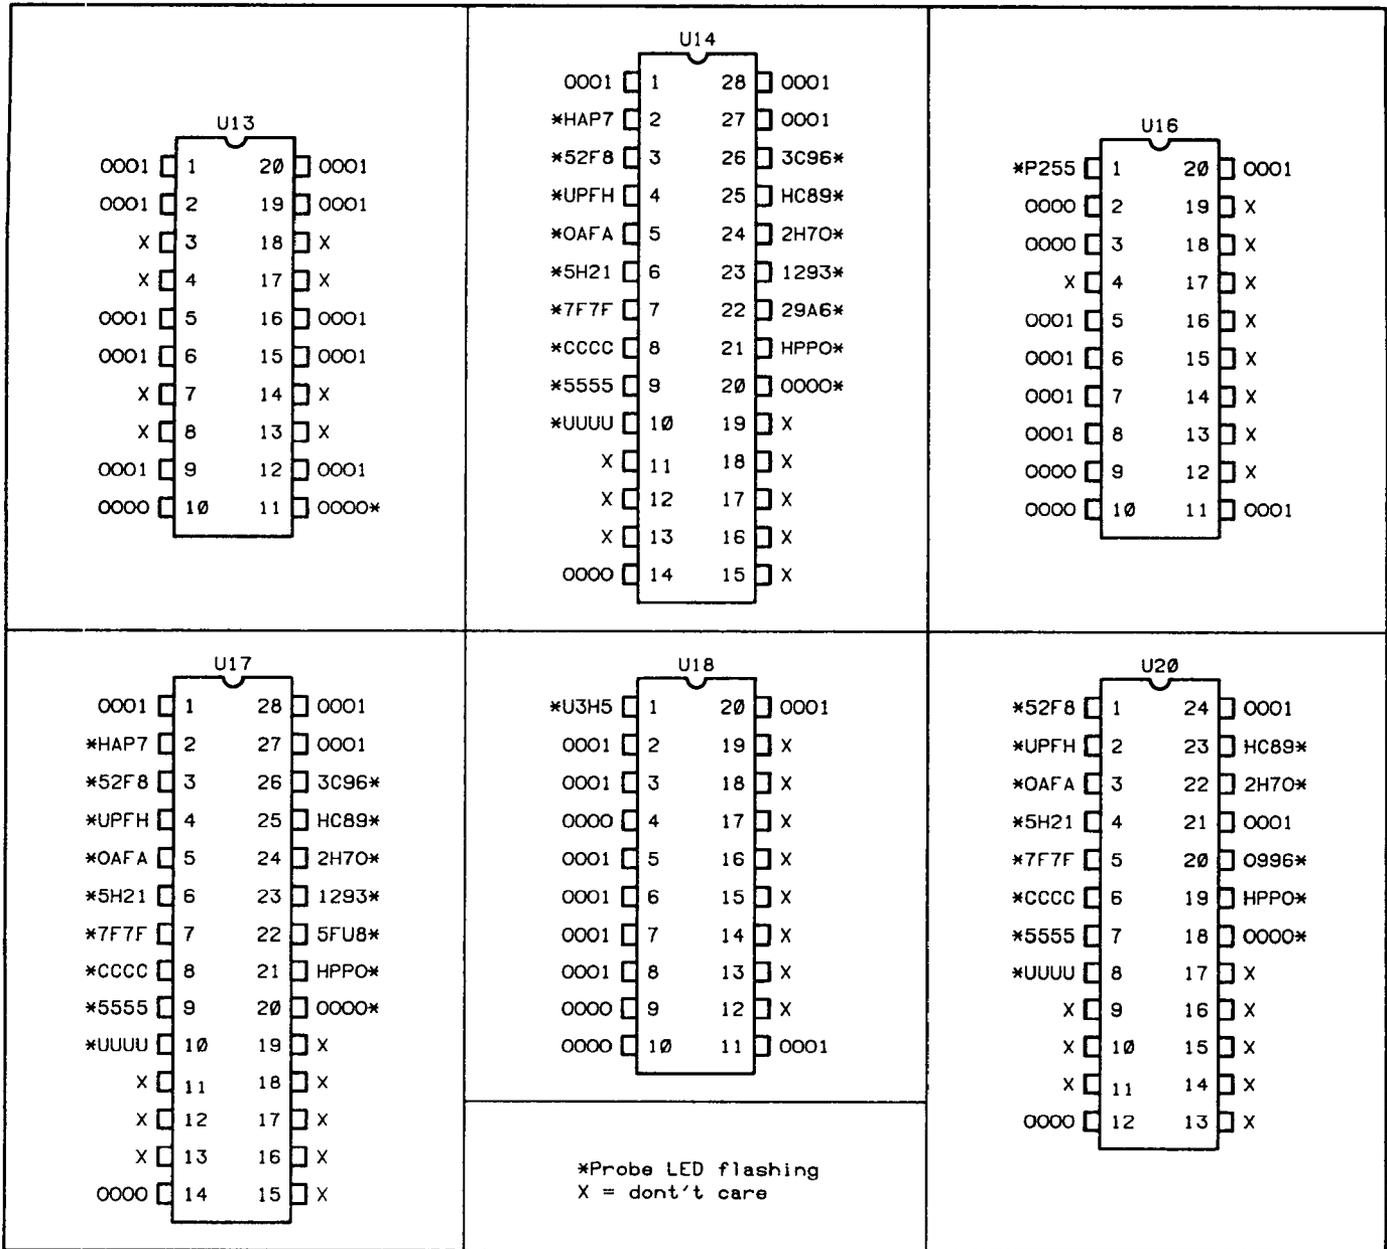

Figure 8-30B. 5352B A4 Signatures for Mode 1, Setup 2 (Continued)
3. Power on the counter and verify the signatures shown in *Figure 8-30A* for the 5350B/5351B, or *Figure 8-30B* for the 5352B.